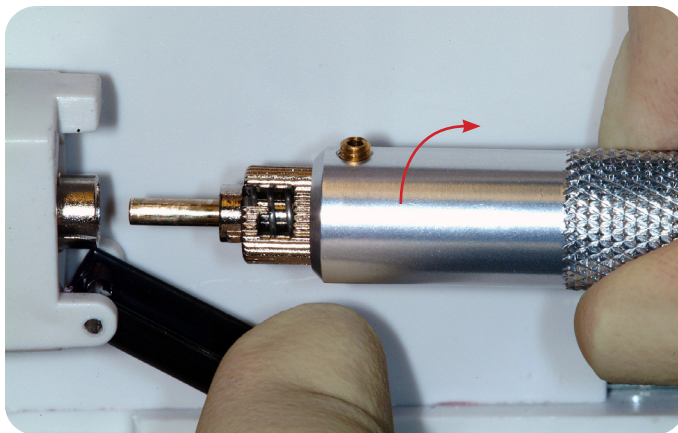

Figure 3.13 Locking Hub
- While opening the door on the laser aperture with one hand, insert the end of the new fiber into the laser aperture (Figure 3.13)